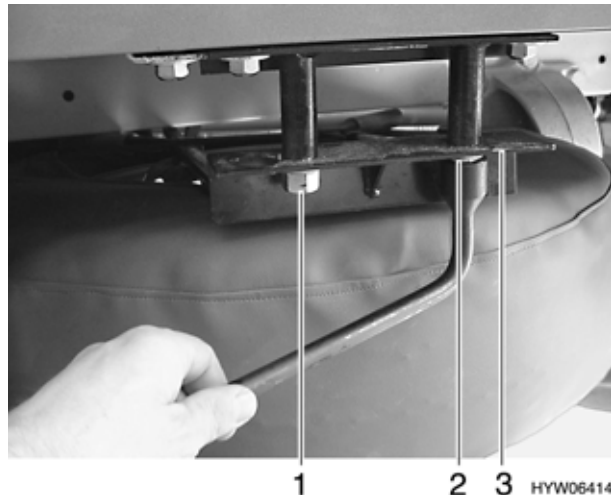

Fig. 180 Spare wheel support device
- Use a wheelbrace (on board tool set) to undo bolt (Fig. 180,1) by three turns.
- Undo bolt (Fig. 180,2).
- Pull spare wheel support device (Fig. 180,3) forward and set down.